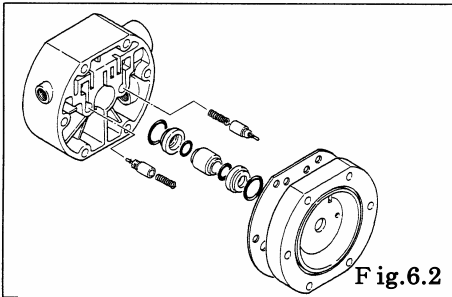

Fig.6.2
- Remove the body B. [Fig.6.2]
- Draw out the pilot valve assembly. [Fig.6.2]
- Remove the Packing, bushing and guide. [Fig.6.2]